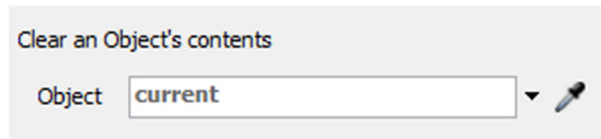

Fig. 7. Clear out objects content option
3. **Clear out object content** – removes all elements that are on the object at the time the message is received (Fig. 7).